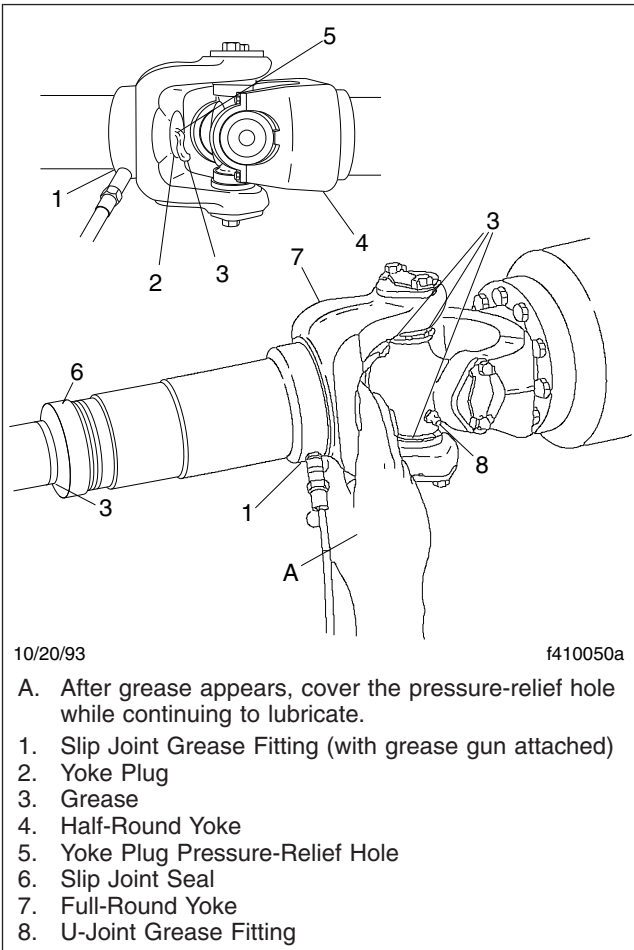

Fig. 6, Slip Joint and U-Joint Lubrication
9. For driveshafts with slip joints, check to be sure the yoke plug is not loose or missing; see **Fig. 6**, Ref. 2. Repair or replace the yoke plug as needed. If the yoke plug is missing, the splined shaft may be hitting the plug and knocking it out; contact your Regional Service Office for assistance in determining the correct driveshaft length.
2. Wipe all old grease and dirt from each U-joint grease fitting. See **Fig. 6**.
1. If equipped with a grease fitting, wipe all old grease and dirt from the slip joint grease fitting. See **Fig. 6**.
2. Use a hand-type grease gun or a high-pressure gun with a low-pressure adapter, to lubricate the slip joint. Add multipurpose chassis grease (lithium 12-hydroxy stearate, NLGI Grade 2, with EP additives) until it appears at the pressure-relief hole in the yoke plug. Then cover the relief hole with your finger, while continuing to apply gun pressure until new grease appears at the slip joint seal. See **Fig. 6**. This ensures complete lubrication of the splines.